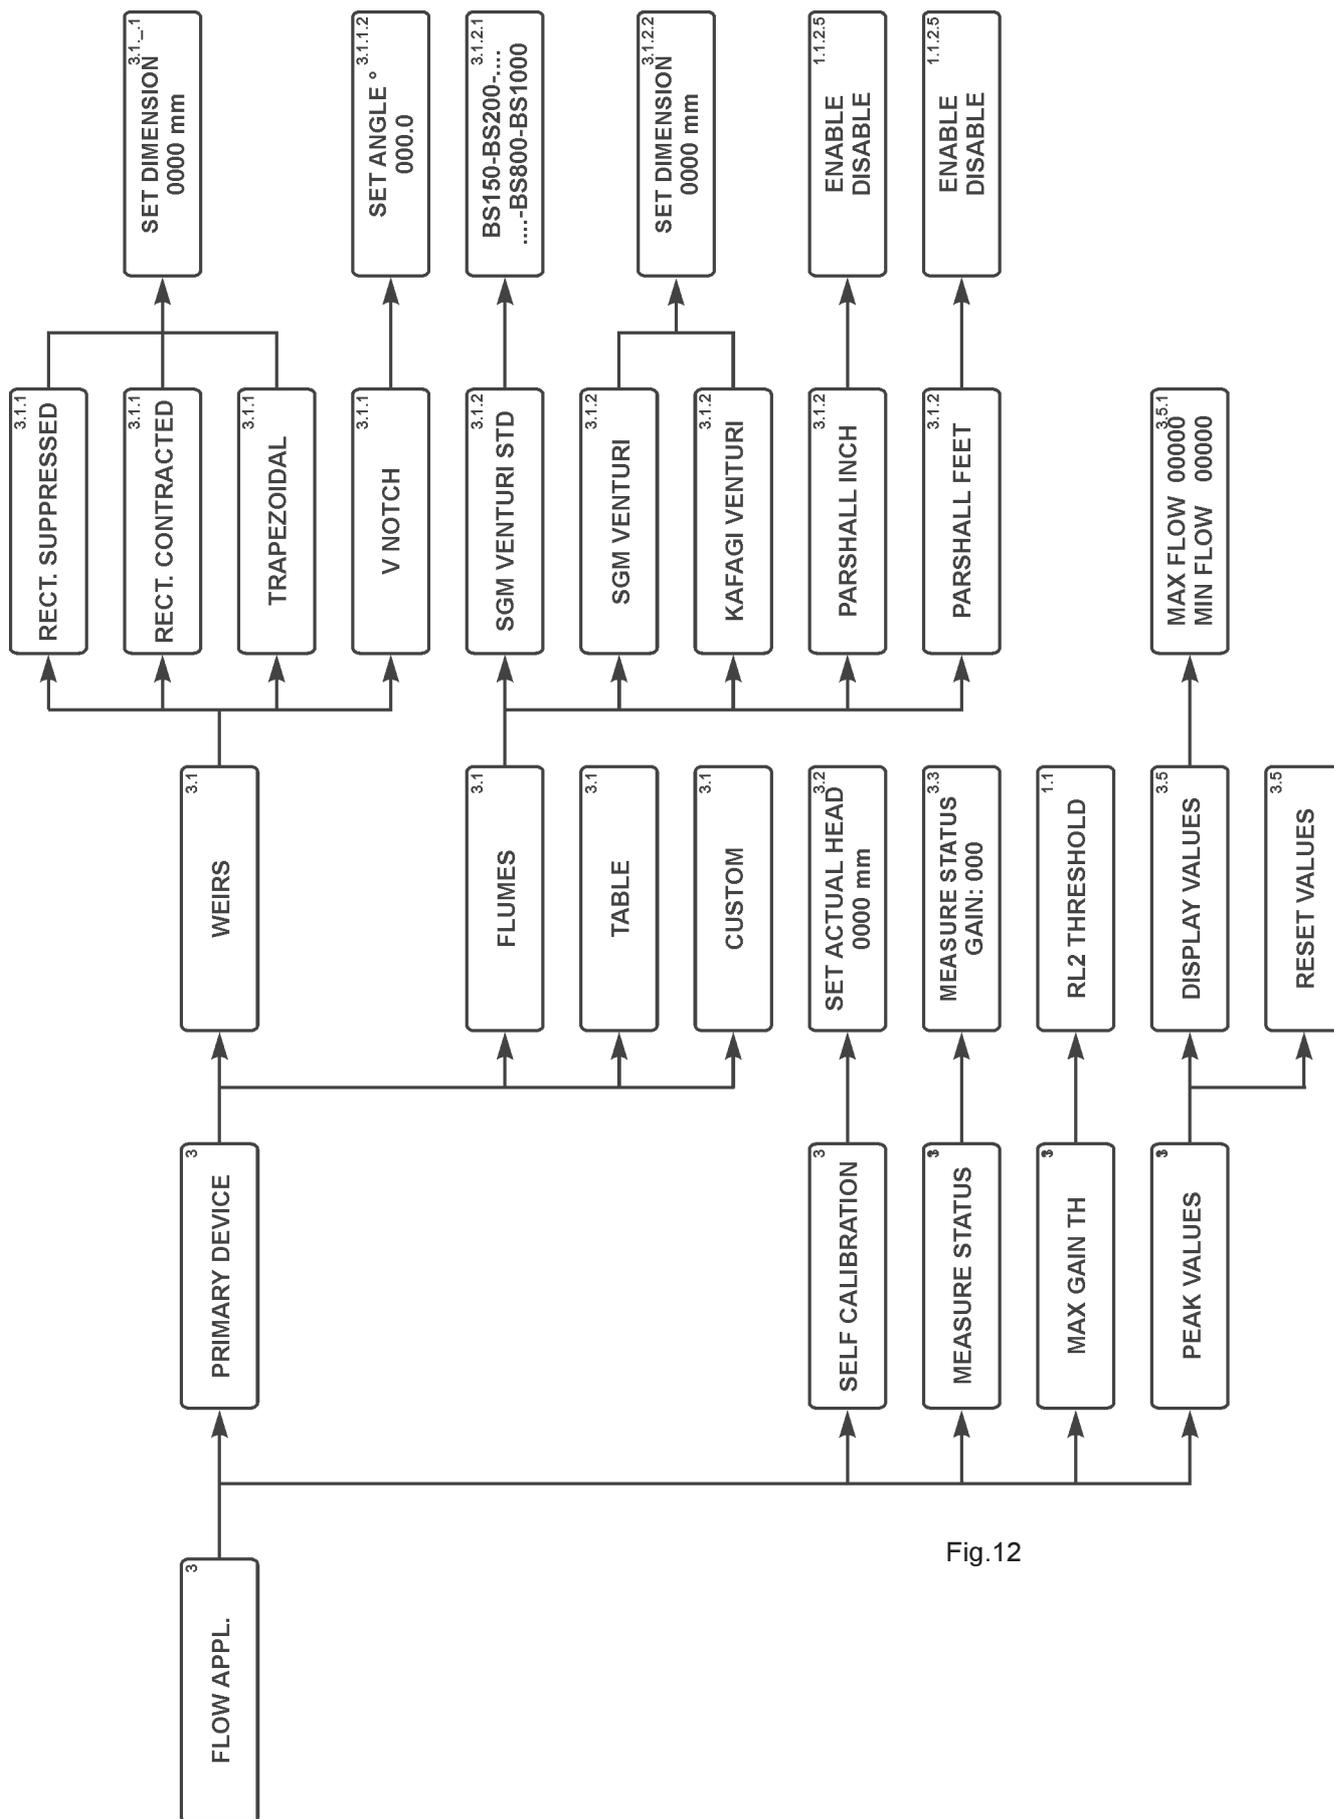

Fig. 12
3. **FOLW APPL.** - in this menu it's possible to test and check the sensor, display peak values and measure status (fig. 12).